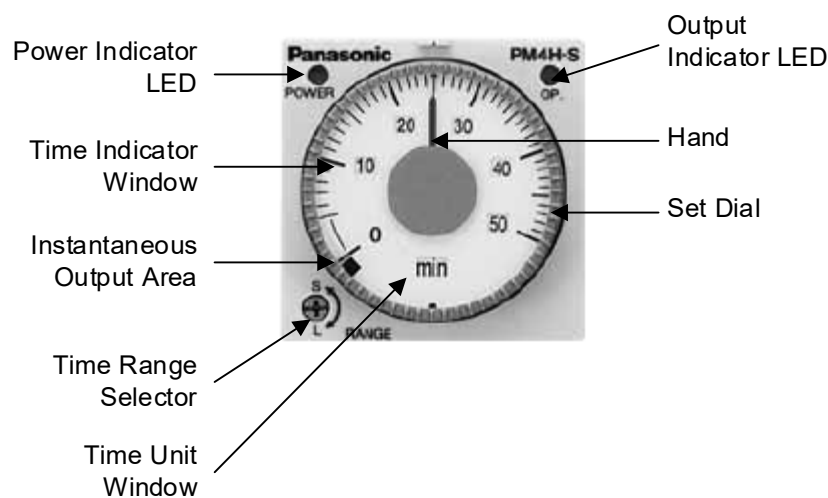

Figure 9: Normally-Off Timer Relay
1. Set the desired time range of the Normal-Off relay. time ranges are selectable between 1s to 500h. See **Figure 9** for the timer details.